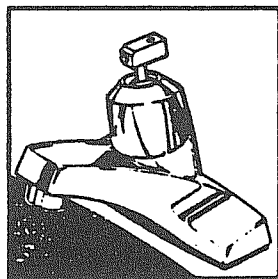

Fig. 11
3. Carefully note the position of the handle adapter (5) to insure correct reassembly. Loosen handle adapter set screw (6) with Allen wrench. Remove handle adapter. Fig. 11.
4. Lift off decorative cap (7).
5. Loosen and remove brass hold down ring (8).